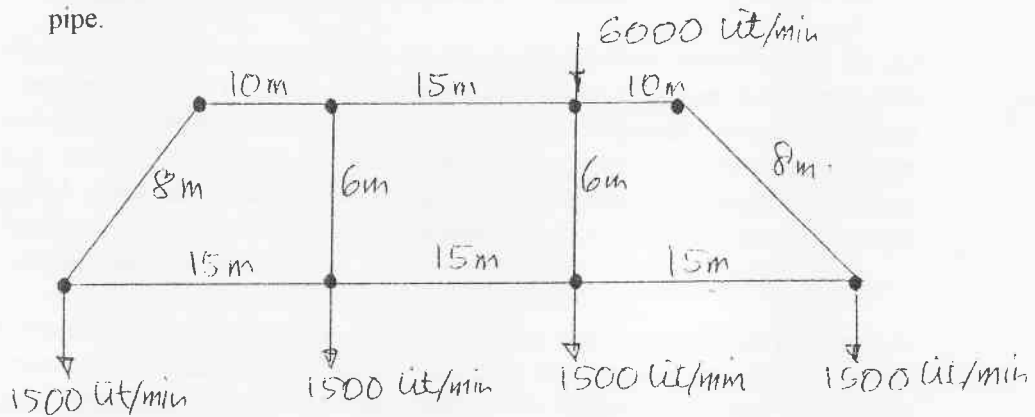

Fig. T2.13
13. Fig T2.13 represents a spray rinse system in which water is flowing. All pipe are 75 mm copper tubing. Determine the flow rate in each pipe.